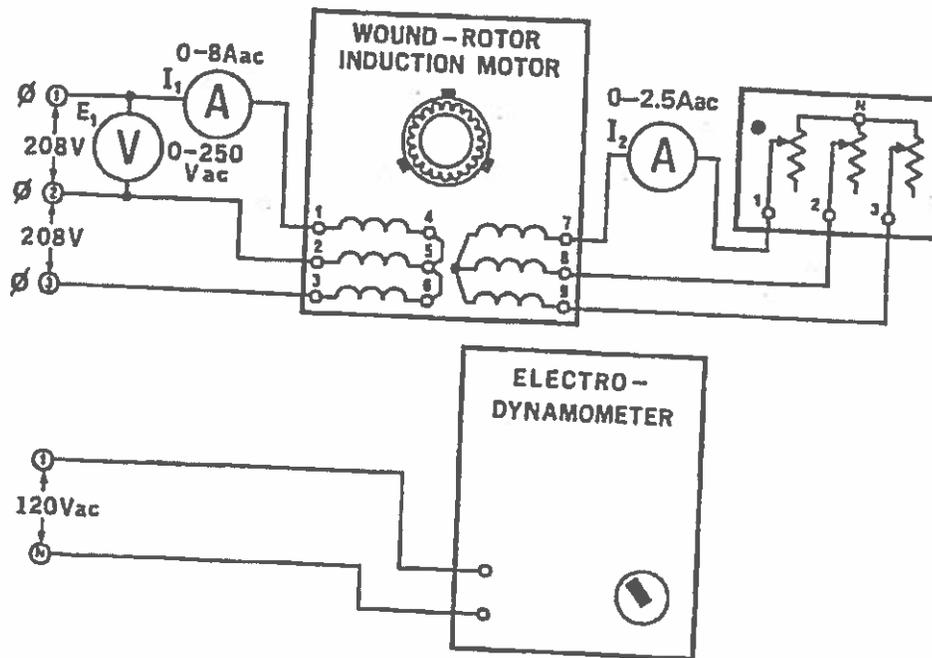

Figure 51-2.
8. a. Connect the circuit shown in Figure 51-2. Note that the fixed 3 ϕ output of the power supply, terminals 1, 2 and 3 are now being used.